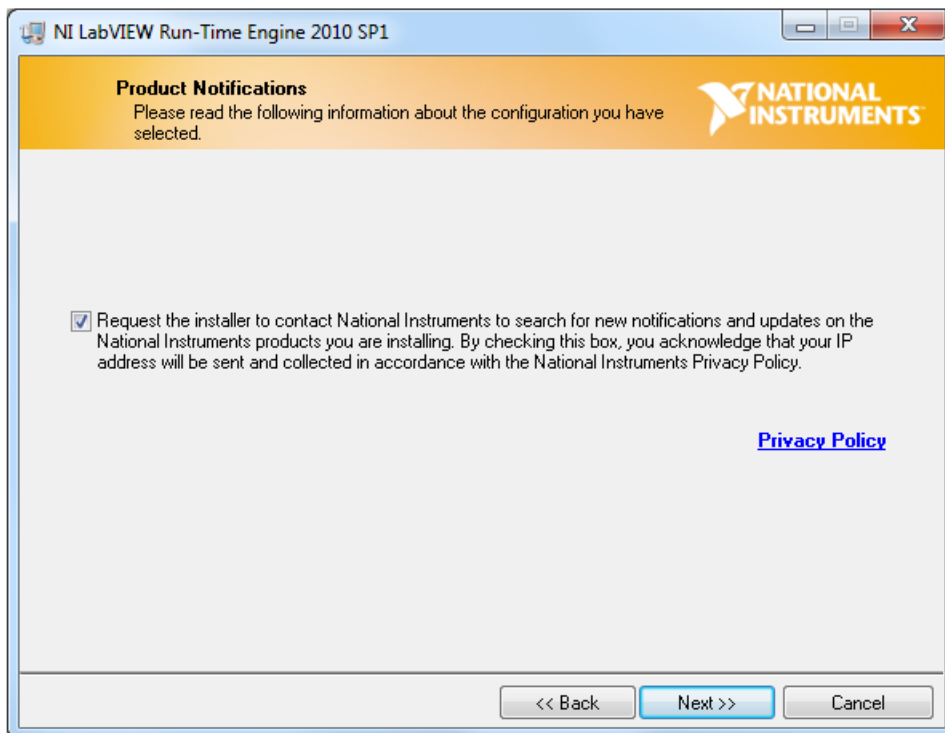

Figure 43. HMC-DAQ GUI Install (LabView Run-time Engine Installation)
10. Press the *Next* button, as in Figure 43.